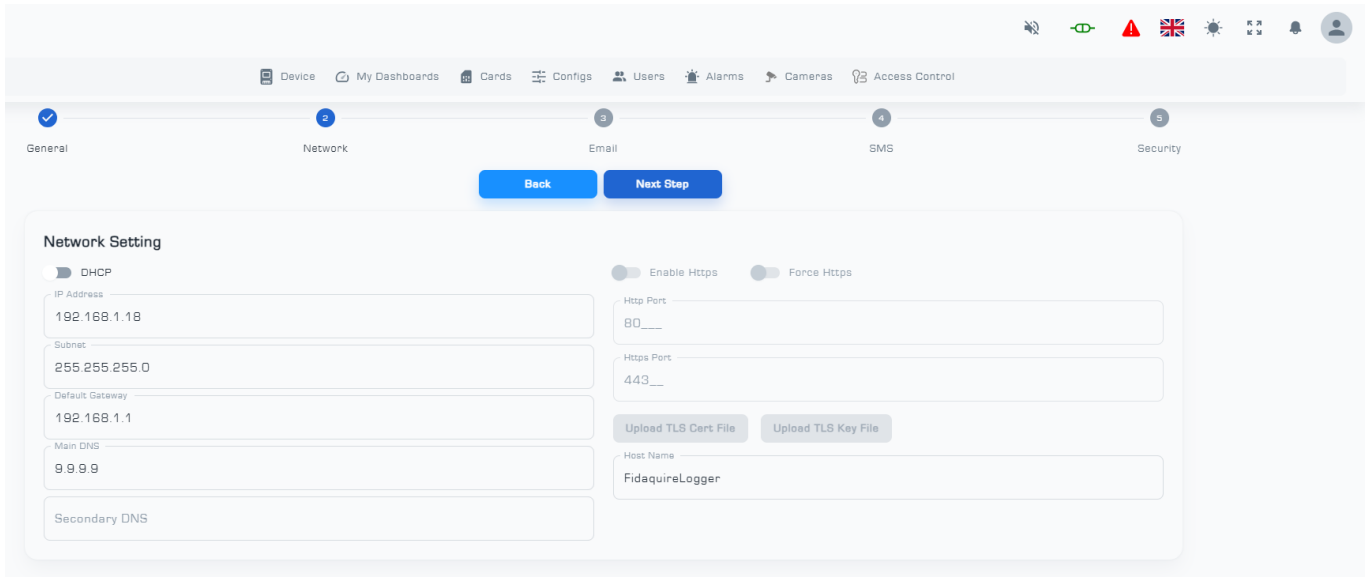

Figure 15: Network Settings Page
- The second stage involves configuring the device's network settings. In this stage, settings for DHCP with failover can be configured. If there is an issue with DHCP, the option to assign a static IP address is available. Additionally, this page provides settings for TLS and the uploading of TLS certification files (Figure 15).